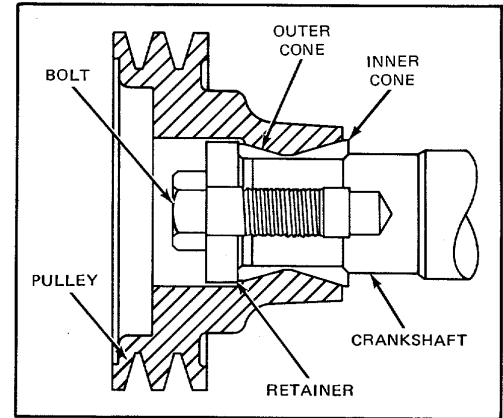

Figure 3. Cone Mounted Pulley
2. Slide the inner cone (Fig. 3), if used, on the crankshaft.
5. Slide the outer cone (Fig. 3), if used, on the crankshaft.